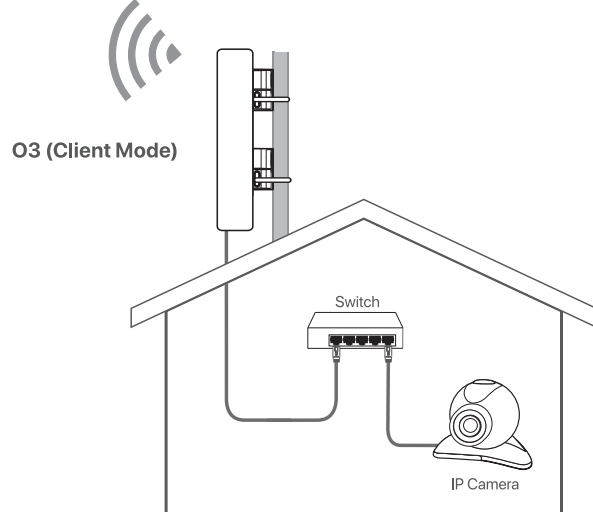

Figure 2
- The device (receiver in Client mode) with LED1, LED2 and LED3 blinking should be connected to the switch connecting to a monitoring IP camera. See **Figure 2**.